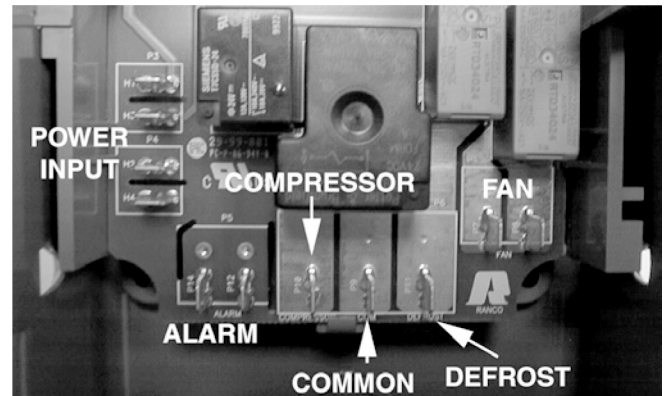
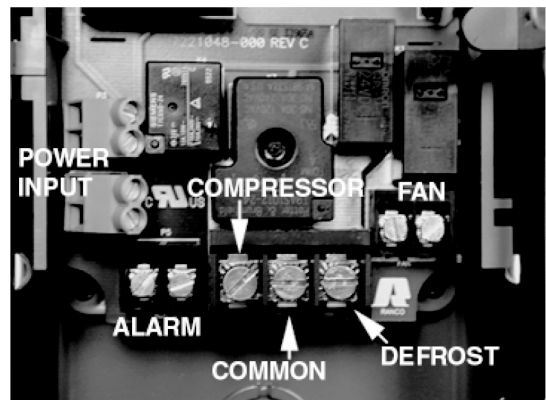

Figure. 10 – Load / AC Input Connectors – Quick Connects
Figure. 11 – Load / AC Input Connectors – Terminal Blocks
1. Connect the wires from the compressor (including the thermostat) to the correspondent terminal on the bottom side of the control (Fig. 10 for quick connect version or Fig. 11 for terminal block version).
2. Connect the defrost device (heater or hot gas solenoid) to the terminal in the control (Figs. 10 and 11).
5. Use the alarm connections to connect an alarm to the control, as shown in Figures 10 and 11.
1. The power input must be connected to the terminals on the left side of the control (Figures 10 and 11). Connect the 120V AC L1 wire (or 208-240V AC L1 wire) to the uppermost terminal and the 120V AC neutral (or 208-240V AC L2 wire) to the lowermost terminal.